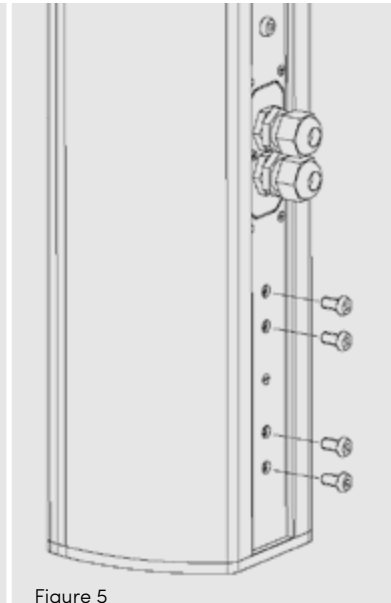

Figure 5
2. Remove the four to six M6 oval-head screws that are located underneath the connector panel. **SEE FIGURE 5.**